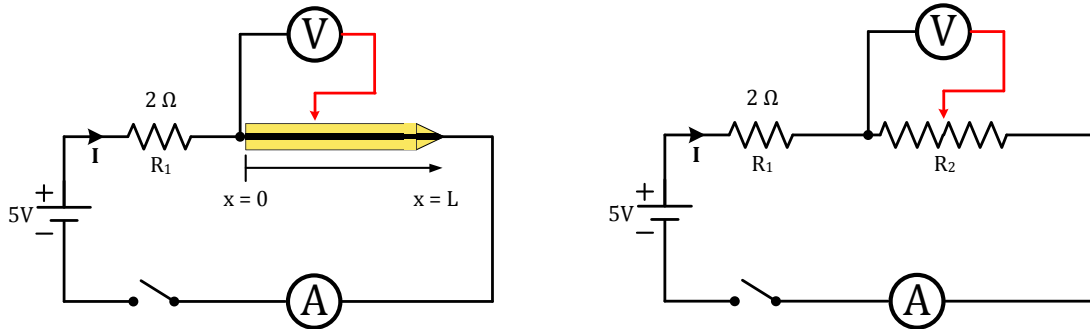

Figure 1: Series resistive circuit with a graphite lead and its equivalent circuit.
1. Figure 1 shows a circuit designed to investigate the resistive properties of graphite. The circuit on the left is the one you will construct, and the one on the right is its equivalent. Note, graphite is commonly found as the “lead” in lead pencils, so we will be using lead pencils as our graphite resistors. Wire up the circuit in Figure 1. Attach the ends of the graphite lead to the circuit using the alligator clips. **With the switch closed, measure and record the current, I , and the voltage appearing across the graphite for incremental lengths between $x=0$ and $x=L$, where L is the total length of graphite.** Record the values in Table 1. Plot the voltage vs. x on Graph 1.